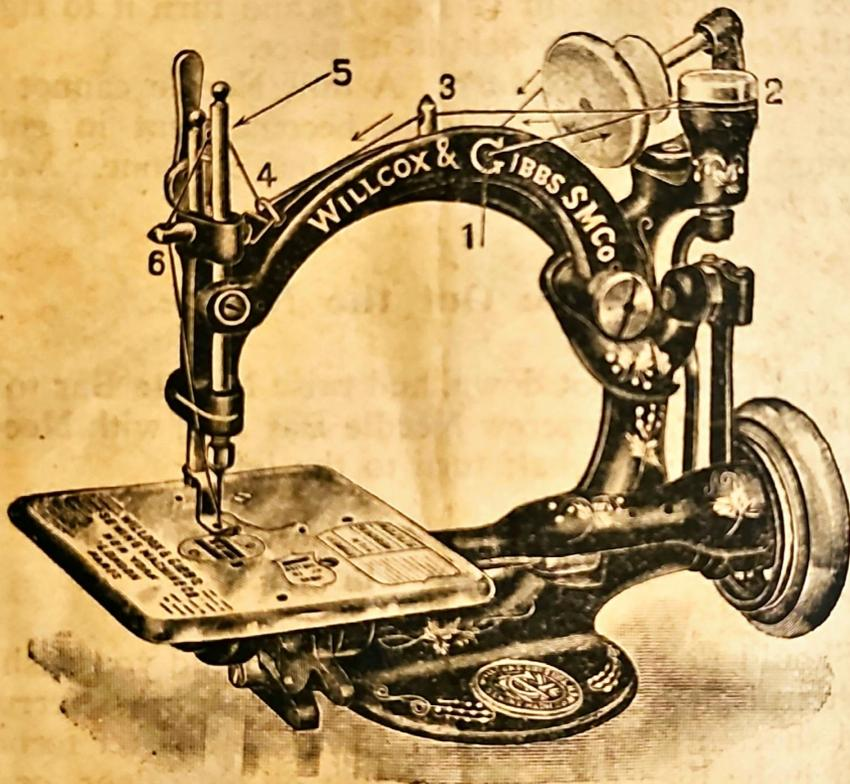

Fig. 9—Shows the Manner of Threading the Machine.
Machines are always sent from our offices properly threaded; therefore, observe Machine carefully when you receive it. The direction of thread is shown by the darts in Fig. 9.
*1. Thread from back toward you, through the two staples and hole in Arm known as **Pull-off** (1, Fig. 9).
2. Then carry thread between spool and **Automatic Tension**, being careful to draw thread between the washers under cap of **Automatic Tension** (2, Fig. 9).
3. Thread from right to left through **Thread Pin** on top of **Frame** (3, Fig. 9).
4. From right to left through **Wire Staple** (4, Fig. 9).
5. Take thread between thumb and finger of both hands, passing it between **Needle Bar** and **Take-up**, and press it from you into opening at top of **Take-up** (5, Fig. 9).
6. Downwards through **Thread Pin** (6, Fig. 9).
7. Through **Needle Eye** from left to right (Fig. 9).
To Fasten End of Seam.—Sew off end of seam *two stitches*; more than this may leave seam unlocked. Stop with Needle at its *highest point*. With left hand, catch thread between Needle and Thread Pin (6, Fig. 9), and pull some slack through the Automatic Tension.* With right hand, draw the slack through the eye of Needle, and, grasping thread firmly, cut the thread close to the goods. Lift Presser Foot and then pull the goods *from you*, and end of thread will be drawn through the loop. Next, *pull end of thread, which will tighten the knot and fasten off the seam*. If you cannot pull any slack thread from the spool, it is because the Needle Bar is *not* at its highest point.